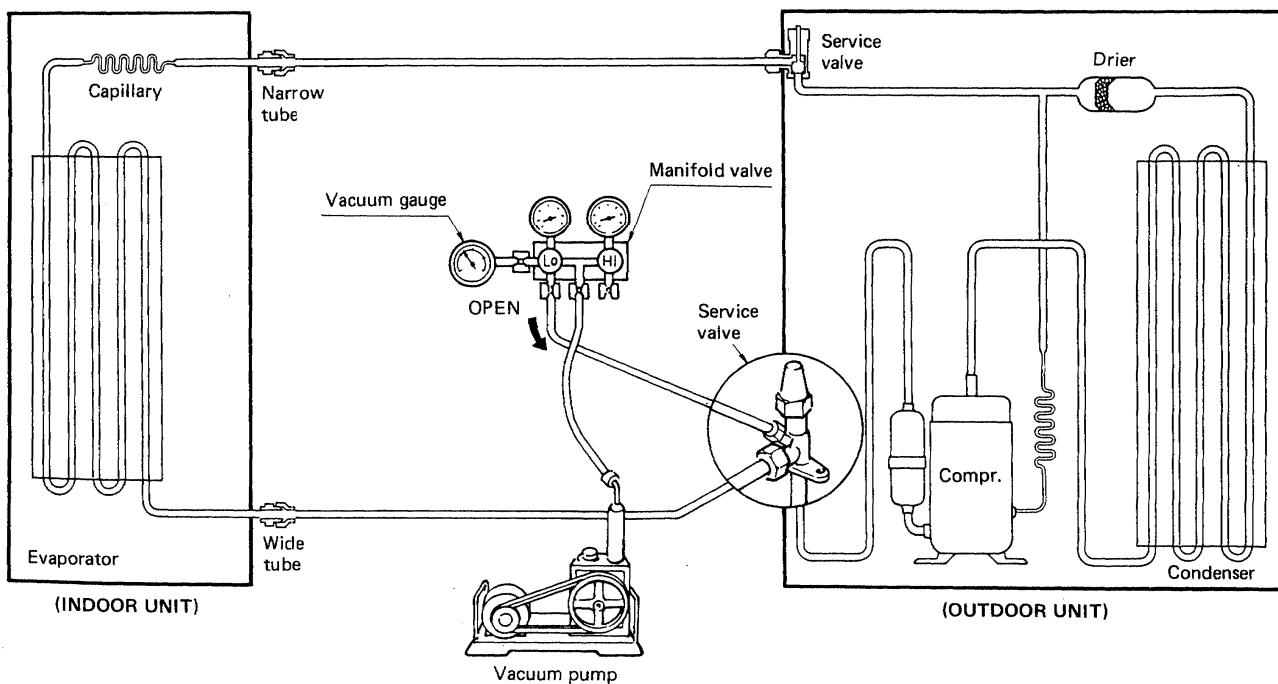

Fig. 32-A
- a) Check gas leakage of all joints with liquid soap. Fig. 32-B